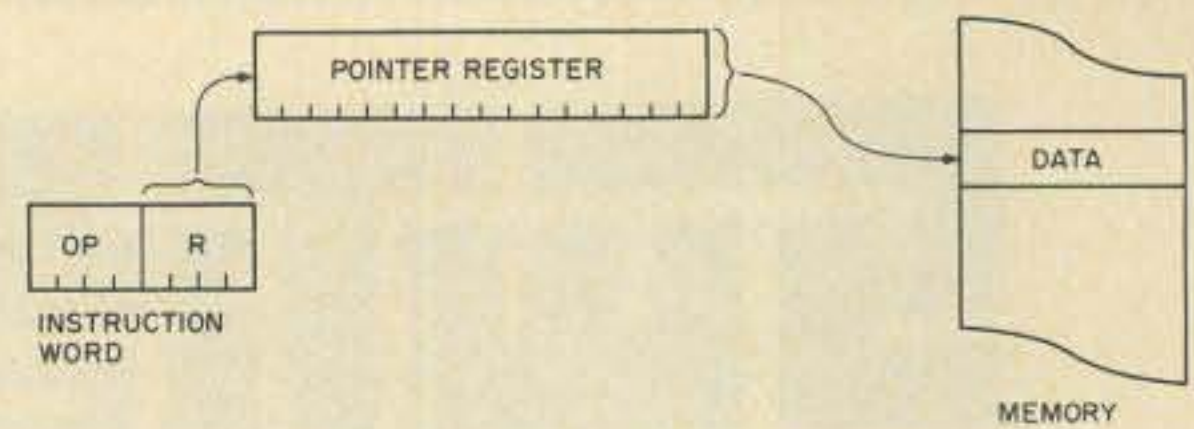

Fig. 9. Register indirect addressing (COSMAC).
**Register Indirect.** In this addressing mode the address of the data is in one of the CPU data pointer registers, and not in the instruction at all. As shown in Fig. 9, only one instruction word is required to access any word in memory, but the address must be set up ahead of time. This addressing mode is very useful for processing sequential data, especially if the address register can be optionally incremented (or decremented) simultaneously. Most micros have either register indirect or indexed (see below) addressing, but only a few have auto increment. One form of register indirect addressing with auto-increment and auto-decrement which is included in many CPUs is called "stack" addressing. Usually this is used to save return addresses in subroutine calls and for temporary storage of data. Sequential words of data are stored in (or retrieved from) sequential memory locations by one word instructions. This is